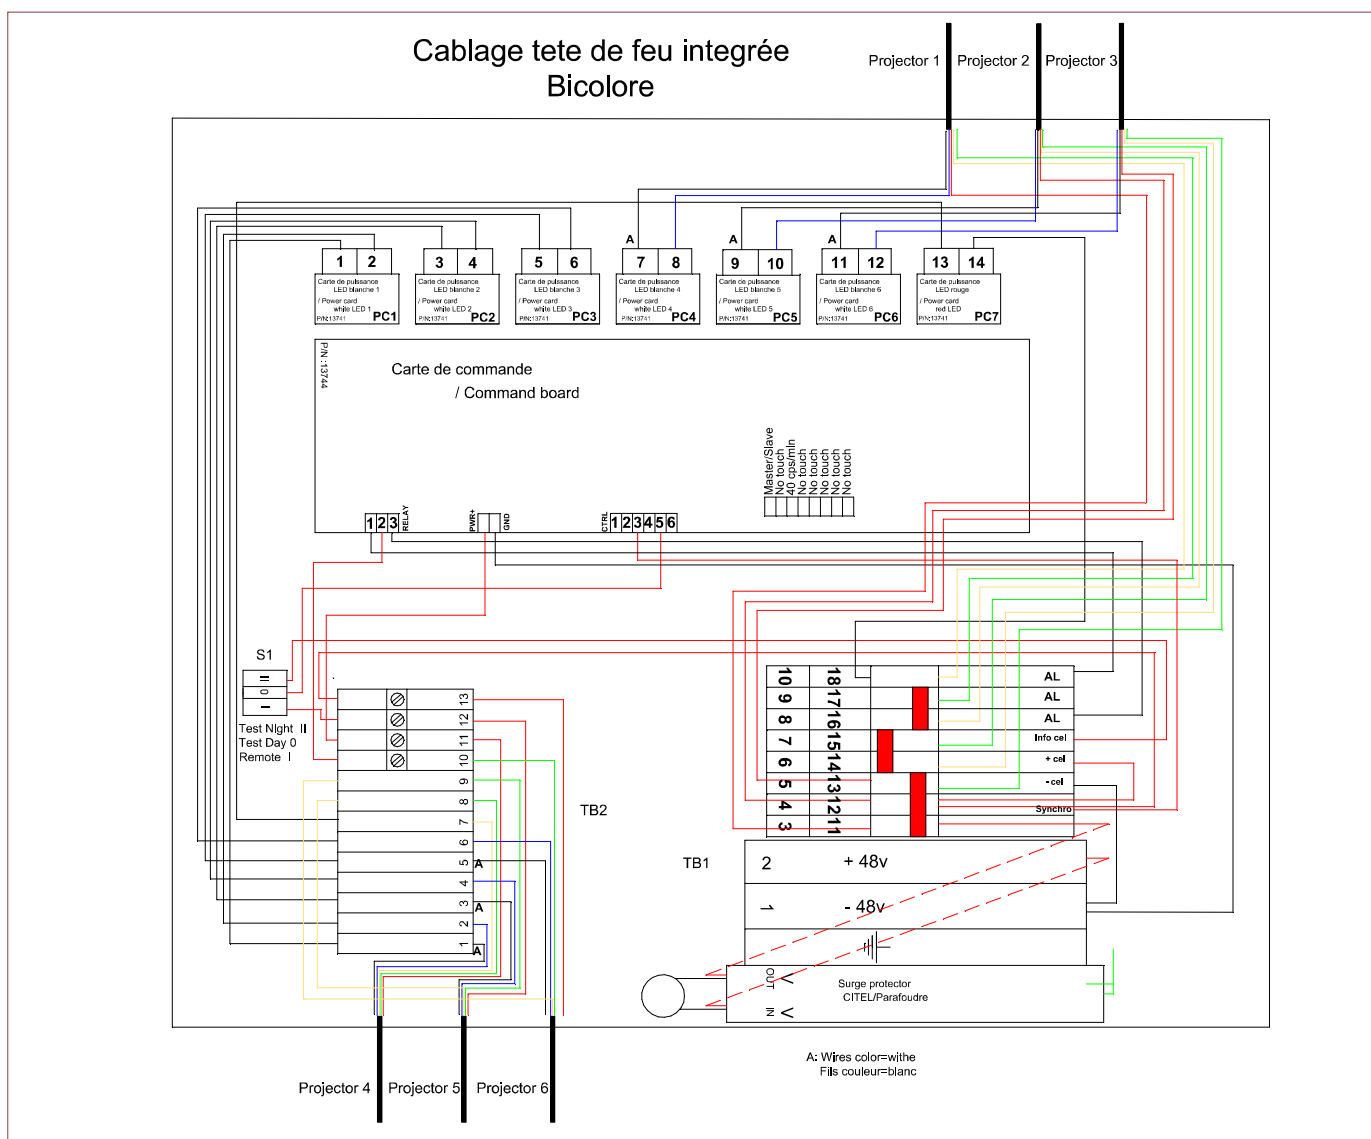

Figure 2-1. INTERNAL WIRING DIAGRAM OF flash-head P/N113792
2.2.2 Wiring of the flash-head (figure 2-1)